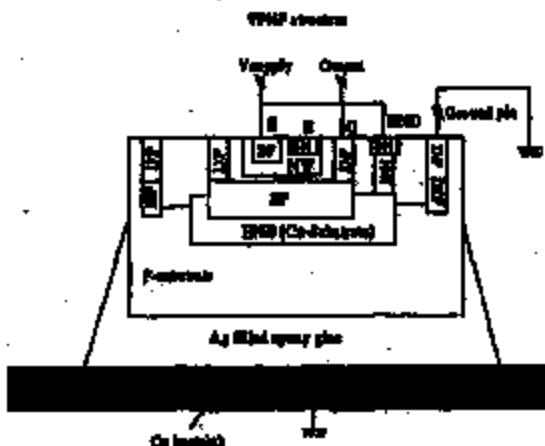

Fig. 3: Schematic view of a cross section of the complementary bipolar IC showing the V-PNP transistor as well as the Cu-heatlink and Ag-filled epoxy site.
In this paper we will show that this packaging method gives rise to a new latchup failure mechanism where latchup is not induced by triggering one of the known thyristors at the top side of the die but by triggering of an unexpectedly present parasitic thyristor located between the frontside and the (n-type) Ag-filled glue contacting the backside of the die, see fig. 3. The phenomenon will be described in more detail in the paper and options for its alleviation will be presented. Consequences for qualification testing will be discussed.
The power ICs in our study are fabricated in a 2 μm double metal complementary bipolar process featuring both V-NPN and V-PNP power transistors. The transistors are built in a 10 μm thick, 2 Ωcm n-type epi layer on top of a 375 μm thick 4 Ωcm p-substrate. Isolation between different n'-epi islands is achieved by deep-P/buried-P (DP/BP) junction isolation. The base of the V-PNP transistor is formed by a N_{well} (NW) diffusion in the n'-epi layer and the transistor isolated from the p' substrate by a deep buried-N (BND) diffusion, see fig. 3. The bipolar gains b_{v} of the active V-PNP transistor T1 formed by the SP-(NW/n'-epi)-BP diffusions, the parasitic V-PNP transistor T3 formed by the BP-BND-p'-substrate and the parasitic V-NPN transistor T2 formed by the (NW/n'-epi)-BP-BND diffusions, see fig. 4, typically equal 60, 120 and 11 respectively at 25°C. At the end of the process all n-doped diffusion layers are
The ICs are subsequently packaged in a SiL-power package. Here the p⁺ substrate backside is attached to a Cu-heatink by an epoxy glue containing Ag-fillers to achieve low thermal resistance values, see fig. 3 and 5.
baised and electrons are injected into the substrate and collected by the BND-layer, see fig. 3 and 4. This causes a voltage drop across R_{sub} which forces parasitic PNP transistor T3 to switch on. A current now flows from the emitter of the V-PNP power transistor T1 to the substrate via T3, causing a voltage drop across R_{sub} . When this voltage exceed the forward voltage of the backside diode, the parasitic NPN transistor T4 may remain conducting even when the V-PNP saturation event is over. Parasitic NPN transistor T2 then starts to operate in reverse and as a result the collector current of T4 will start to drive transistor T1 and a thyristor is being build-up.